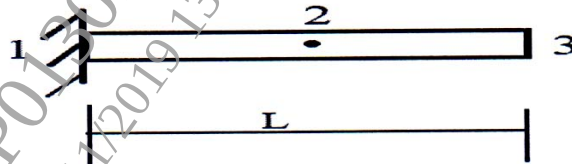

Figure:5
- b)** Using consistent mass matrix method, find the natural frequency of longitudinal vibration with two elements of bar as shown in figure 5. Take $E = 2 \times 10^{11} \text{ N/m}^2$, $\rho = 7800 \text{ kg/m}^3$, $L = 1 \text{ m}$, $A = 30 \times 10^{-6} \text{ m}^2$. [10]